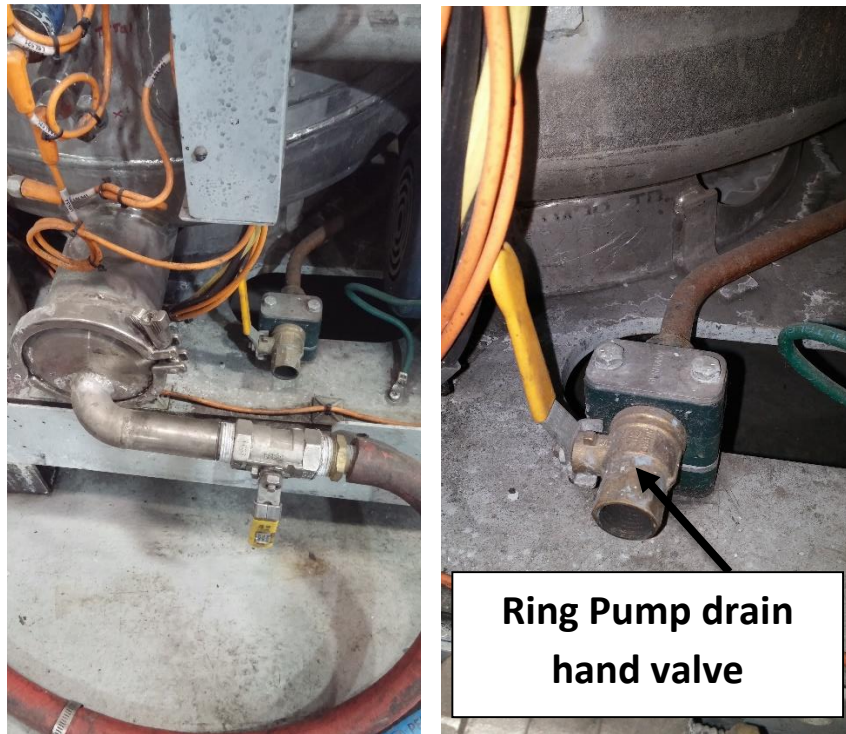

Figure 1: Ring pump drain
1. Open the ring-pump drain hand-valve to drain any water that remained in the pump casing (See **Figure 1**).